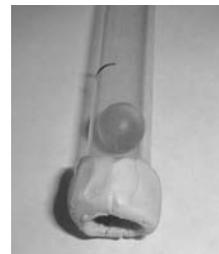

Figure 2: This valve was created by molding clay to the end of a plastic tube and placing a marble inside the tube.
- * 1 prototype made with clay and a marble (see Figure 2 below)
- 1 Scoring Guide: GROUP INTERACTION (GI)
- 1 Scoring Guide: DESIGNING INVESTIGATIONS (DI)